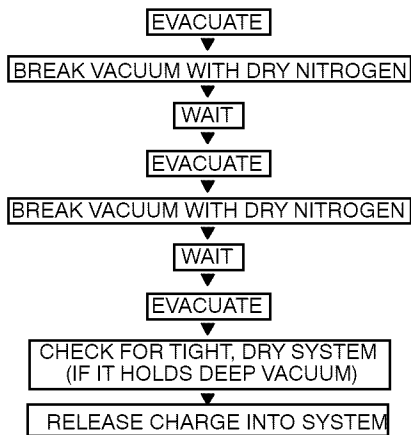

Fig. 43 - Triple Evacuation Method
The triple evacuation method should only be used when vacuum pump is only capable of pumping down to 28 in. of mercury vacuum and system does not contain any liquid water. Refer to Fig. 43 and proceed as follows:
5. Repeat this procedure as indicated in Fig. 43. System will then be free of any contaminants and water vapor.